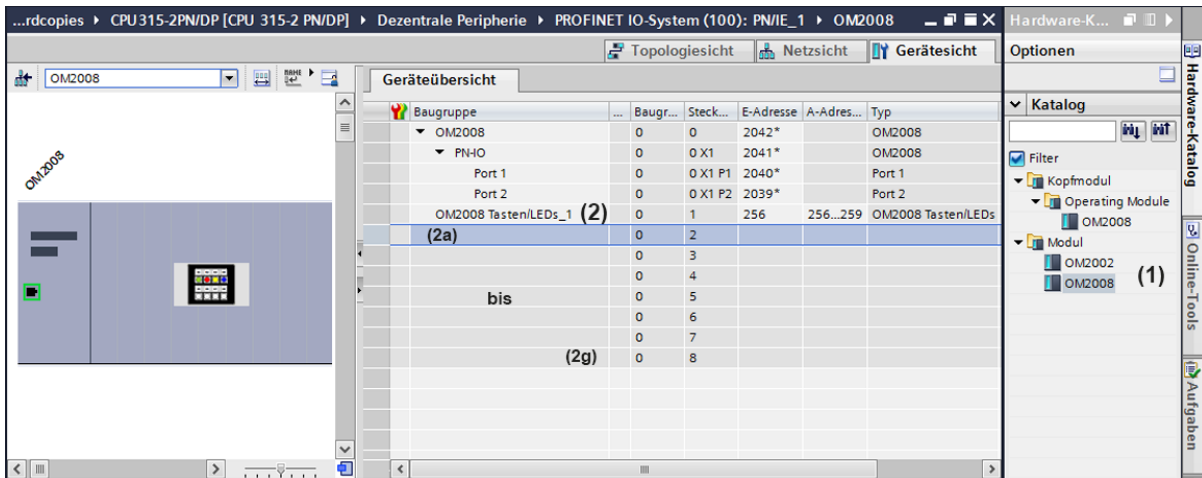

Fig. 6.3: Device overview head module connection
The device overview (Fig.6.3) appears.
The operation module selected from the hardware catalog (1) (in Fig. 6.3 it is a head module) is displayed in area (2).